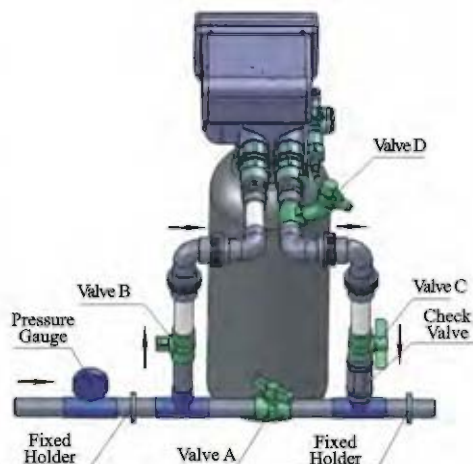

Figure1-3
④Pipeline connection
a. As Figure1-3 shows, install a pressure gauge in water inlet.